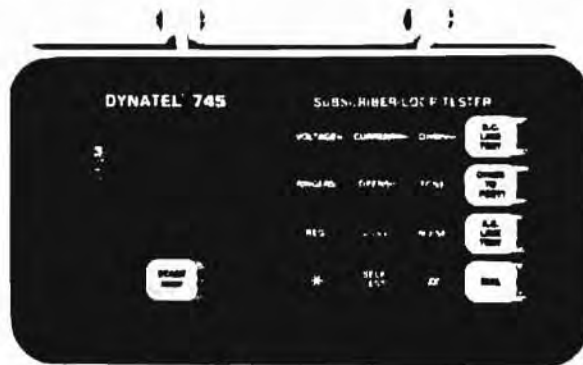

Fig. 2-1—745 SLT Operating Surface
2.01 The START/RESET key (see Fig. 2-1) turns the set on and starts a brief self-test sequence which displays the battery status. This key also resets the unit, allowing the operator to exit from any test sequence. In addition, pressing and holding this key will force the unit to turn off after two to four seconds.
3.01 The blue keys (see Fig. 2-1) select individual test functions and act as a touch keypad for dialing. The following paragraphs describe the keys and their functions.